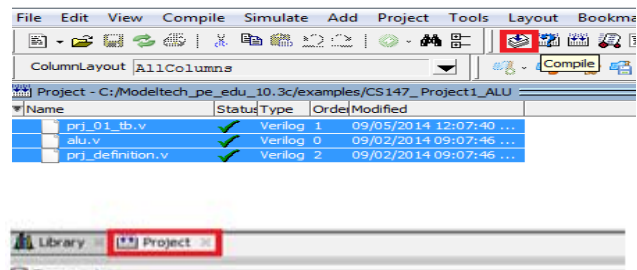

Figure 4.5 Project window and Compilation of files
- 4) Once all three files are added to the project, select all three files from the 'Project' tab and press the compile button. If the compilation is done successfully, '✓' symbol will appear to each Verilog file as shown in figure 4.5.